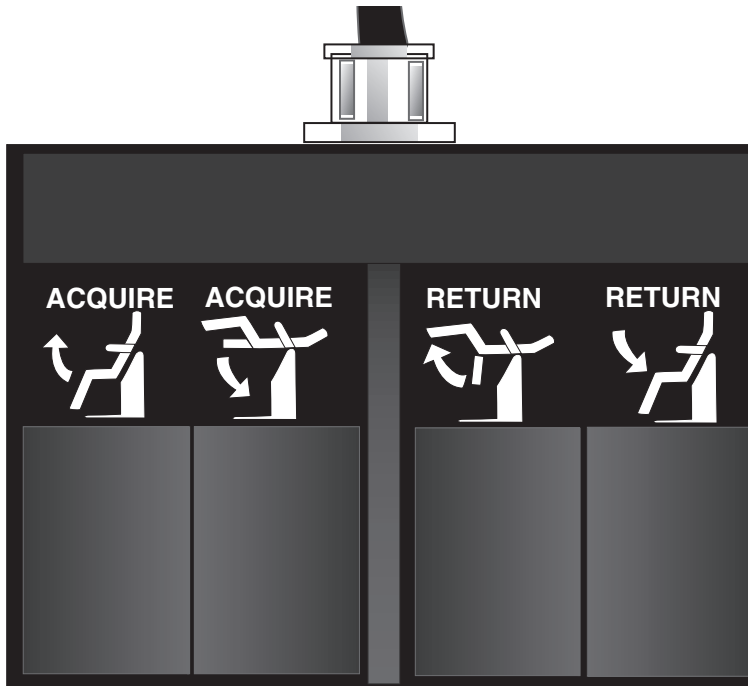

FIGURE 5
1. To attain the lithotomy position from the chair position, depress the left side of the pedal marked “Acquire” (Fig. 5) and hold down until table position or tilt is achieved.